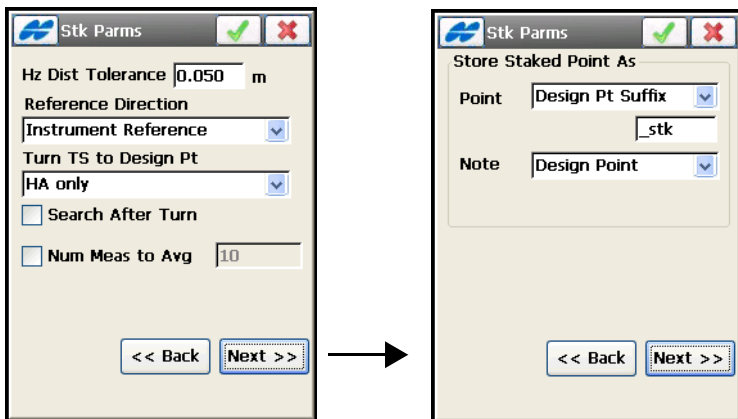

Figure 4-81. Stakeout Parm's
12. Set the Stakeout Parameters in two ***Stk Params*** screens: the Horizontal distance tolerance, reference direction, the rule for generating the name and Note of the staked point (if necessary), and the way the total station is to be turned towards the design point. Tap **Next** (Figure 4-81).